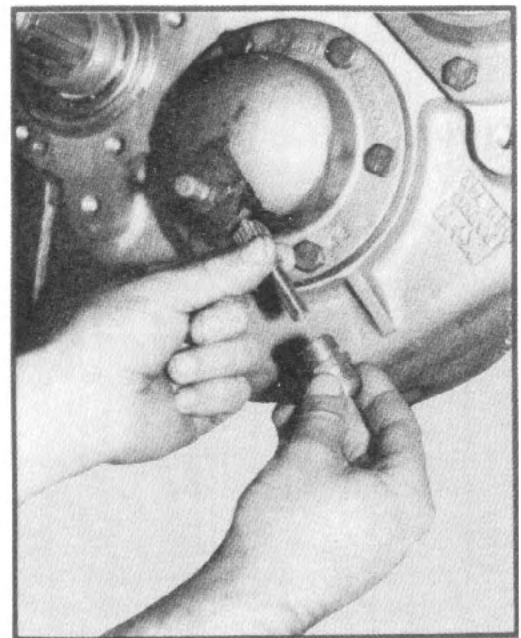

Fig. 17
11. Install speedometer driven gear and speedometer driven gear sleeve to front cap (See fig. 17). Install speedometer adapter, if so equipped.